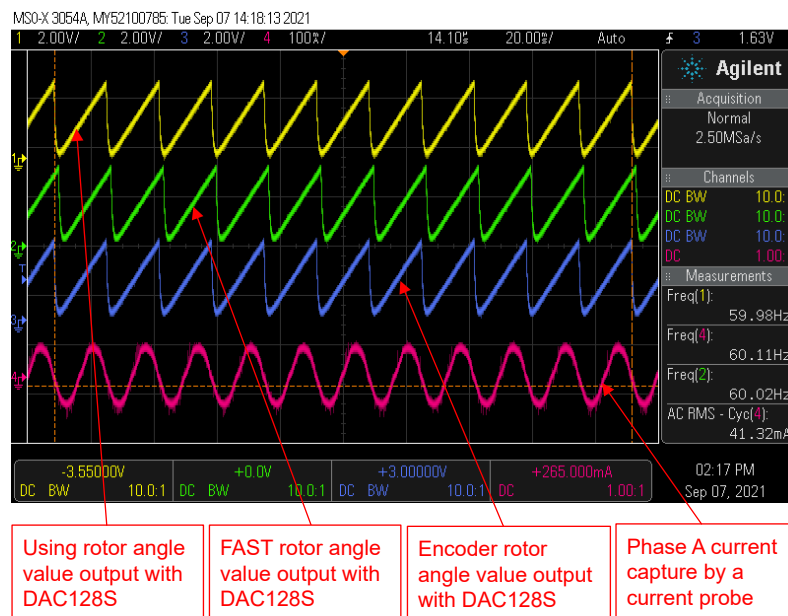

Figure 2-48. Build Level 4: Rotor Angle with eSMO and Encoder, Phase Current Waveforms at Forward Rotation
- The estimated rotor angles from eSMO and Encoder are shown in Figure 2-48. The motor is running with eSMO at forward rotation by setting motorVars_M1.speedRef_Hz to a positive value.
Use DAC128S085EVM with an oscilloscope to monitor rotor angle of the motor from the eSMO estimator and encoder, and a phase current of the motor as shown in Figure 2-48 when the motor is running at forward rotation by setting *motorVars_M1.speedRef_Hz* to a positive reference value.